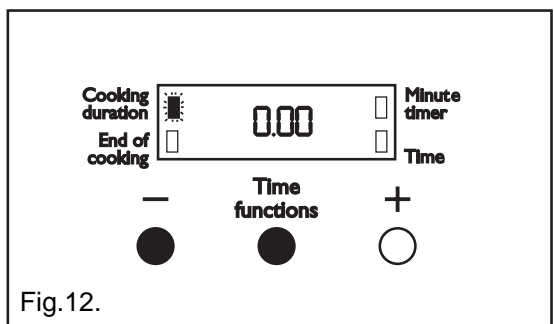

Fig.12.
- 1) To cancel an automatic programme press the Time functions control button until the 'Cooking duration' indicator neon flashes. Press the decrease control (-) until the display reads 0.00 as Fig. 12.